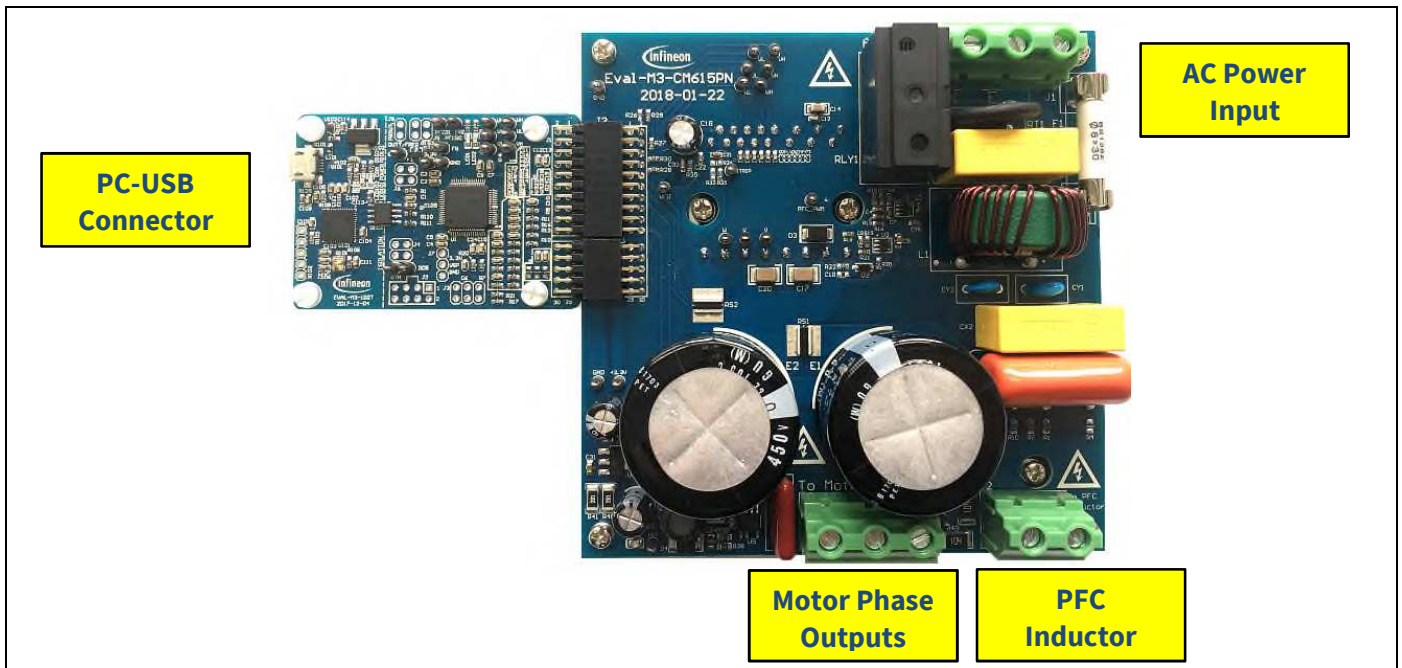

Figure 4 System connection example using EVAL-M3-CM615PN and EVAL-M3-102T
Figure 4 shows the system connection using EVAL-M3-CM615PN and control board (used control board EVAL-M3-102T for example).
2. Connect EVAL-M3-CM615PN's MADK M3 30-pin interface connector (J3) to control board (see Figure 4).